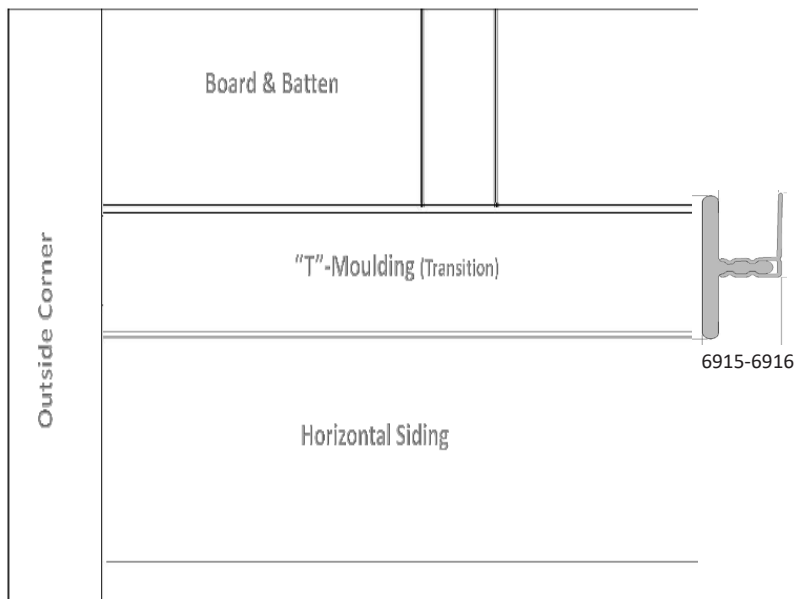

Figure 3
4. Once siding panels are installed (both sides of the transition), install the 6916 "T"-Moulding by snapping it into the Trim Receiver (Figure 3).